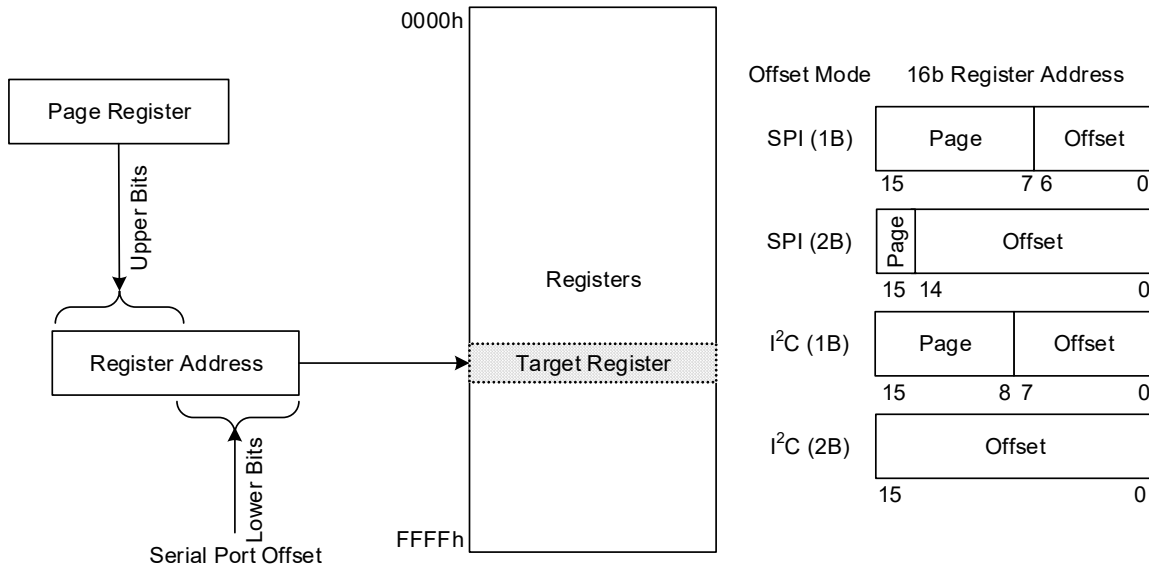

Figure 18. Register Addressing Modes Using Serial Port
You can choose to operate the serial port providing the full offset address within each burst, or to operate in a paged mode where part of the address offset is provided in each transaction and another part comes from an internal page register in each serial port. Figure 18 shows how page register and offset bytes from each serial transaction interact to address a register within the RC32504A.
The selection of 1-byte (1B) or 2-byte (2B) offset addressing must also be configured using the `ssi_addr_size` register field. These offsets are used in conjunction with the page register to access registers internal to the device (see Figure 18). Because the I2C protocol already includes a read/write bit with the Dev Addr, all bits of the 1B or 2B offset field can be used to address internal registers.
- 1-byte (1B) or 2-byte (2B) offset addressing (`ssi_addr_size`) (see Figure 18)